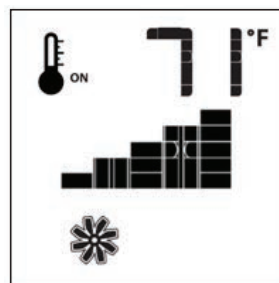

Fig. 62
If the Heater is equipped with a hot air circulating fan, the speed of the fan can be controlled by the Proflame2 System. The fan speed can be adjusted through six (6) speeds. To activate this function use the Mode Key (Fig. 49) to index to the fan control icon (Fig. 61). Use the Up/Down Arrow Keys (Fig. 49) to turn on, off or adjust the fan speed (Fig. 62). A single “beep” will confirm reception of the command.